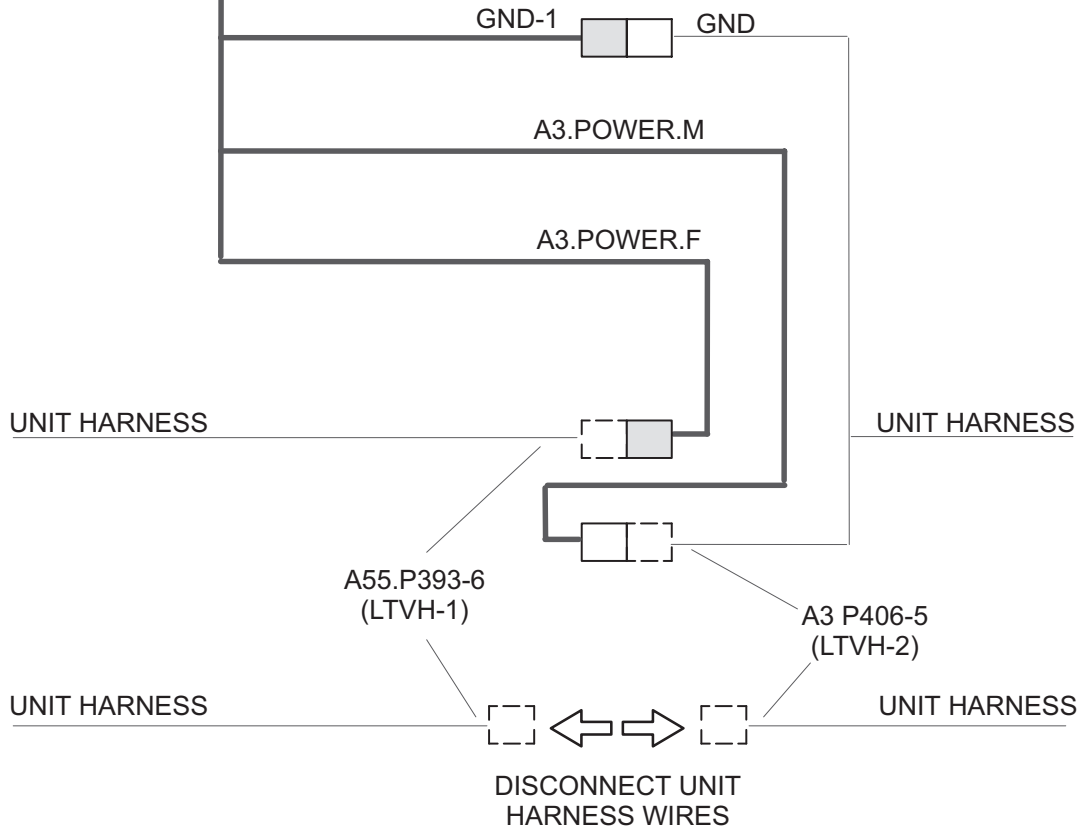

FIGURE 13
- 9 - Route the other end of the P229 harness to the heat section and make wire connections. See FIGURE 13.